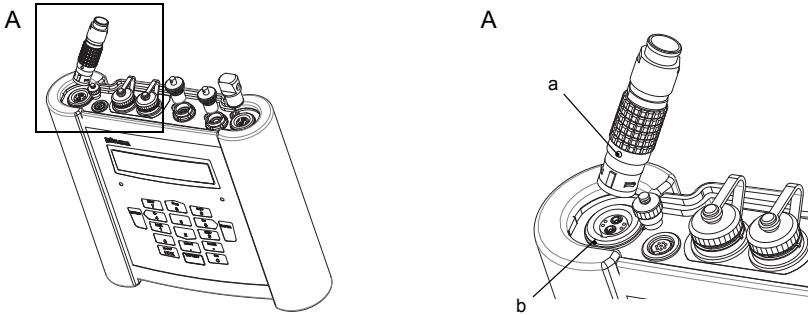

Fig. 7.7: Connection of the transducers (FLUXUS F608**-A2)
- Insert the connector of the transducer cable into the socket of the transmitter. The red point (a) on the connector has to align with the red marking (b) on the socket (see Fig. 7.7).